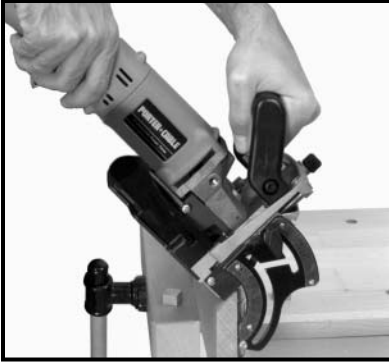

Fig. 28
7. Hold tool firmly as shown in Fig. 28, and squeeze trigger switch to start tool.